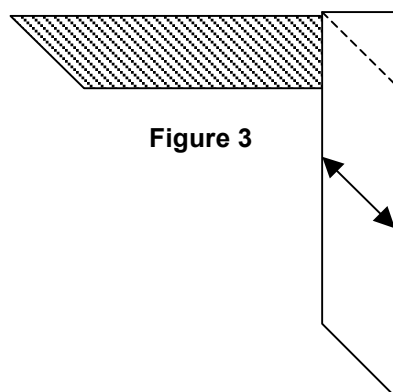

Figure 3
- Draw the stitching line diagonally from corner to corner as illustrated. The stitching line will follow the straight grain. (Figure 3)